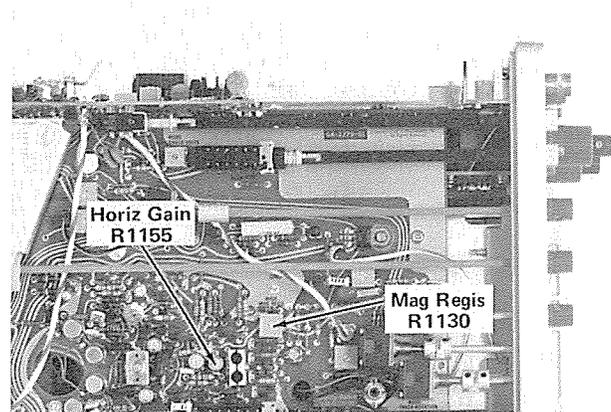

Fig. 5-24. Location of Horizontal Gain and Magnifier Registration adjustments.
d. ADJUST—Horizontal Gain adjustment, R1155 (see Fig. 5-24), for 1 time marker/division.
e. ADJUST—Magnifier Registration adjustment, R1130 (see Fig. 5-24), to position the second time marker to the center vertical graticule line.